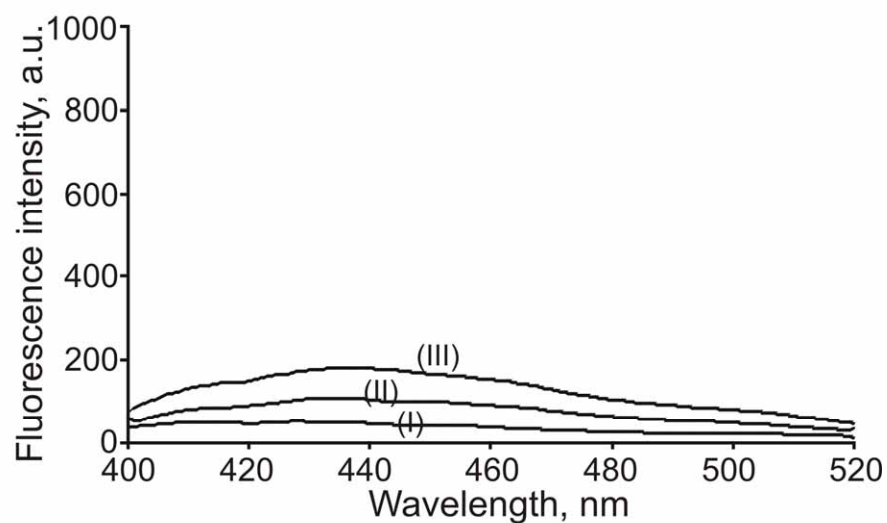

Figure S3
Figure S3. Effect of concentration of the dye on the fluorescence emission intensity of DPH. Fluorescence spectra of DPH were recorded at 5 nM (I), 500 nM (II) and 5 μ M (III) concentrations as shown. Samples were excited at 360 nm. Excitation slitwidth was kept at 5 nm and emission slitwidth was kept at 7.5 nm.